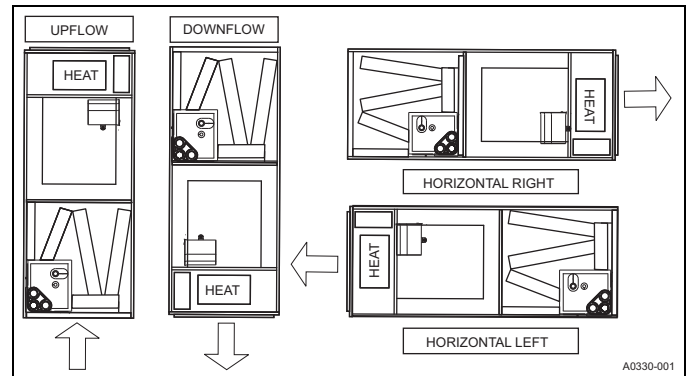

FIGURE 1: Air Flow
2. Install the clean filter with "air flow" arrow in the same direction as the air flow in your duct. If air flow direction is indicated on the filter, refer to Figure 1.